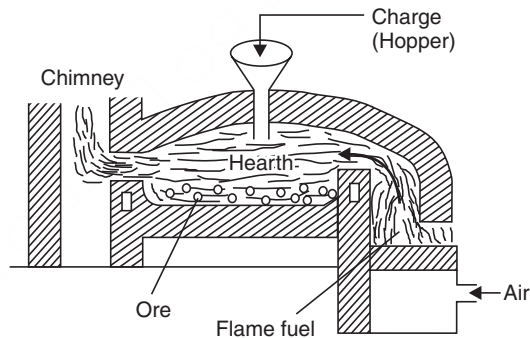

Fig. 14.6 Reverberatory furnace.
- **Reverberatory furnace.** This is a special type of furnace much used in metallurgy. In this furnace, the material is heated not directly over fire, but by the hot gases produced in the fire place (Fig. 14.6).